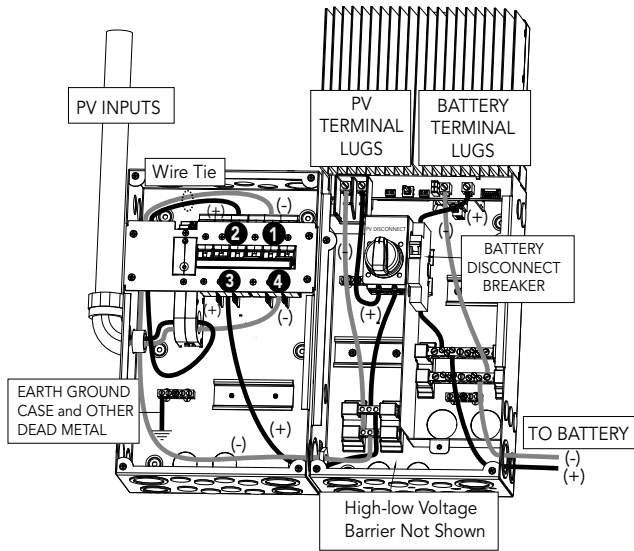

Figure 8. Completing Wiring for DB Model
**NOTE:** If installing with DB model controller (Figure 8), connect (+) wire to terminal block with yellow wire (goes to PV Disconnect), and connect (-) wire to terminal block with black wire (goes to (-) PV terminal lug). Replace and secure the metal high-low voltage barrier over the solar wires. Close GFPD-600V breakers.
NOTE: If installing with DB model controller (Figure 8), connect (+) controller side controller<->battery wire to (+) terminal block (goes to battery disconnect switch). Connect (-) controller<->battery wire to (-) terminal block (goes to controller (-) battery terminal). Connect (+) battery side controller<->battery wire to (+) battery terminal. Connect (-) wire to (-) battery terminal.
The diagnostic flow diagram in Figure 8 on page 15 illustrates the possible GFPD-600V faults.